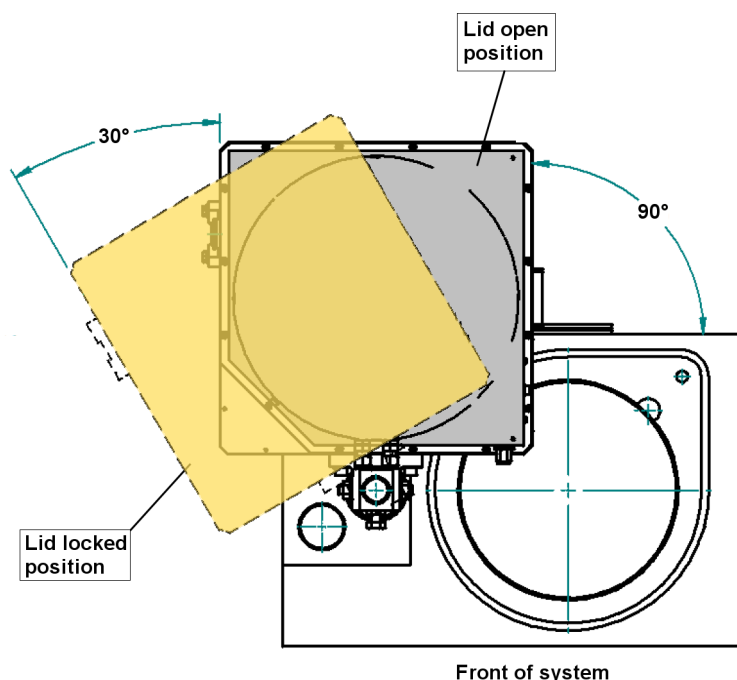

Figure 6-2 Plan view of tool showing lid locking position
- 1 Push the process chamber lid forwards by approximately 30° until it reaches its normal open position (see Figure 6-2).